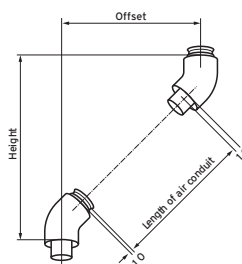

Fig. 6.4: Installation of 45° bends
- When using elbows for long flue runs in a corner follow fig. 6.4 and fig. 6.5 to avoid obstructions.
Note: The elbows must be correctly aligned to avoid undue stress on the joints and risk of leakage. The elbow fitted to the top of the boiler (1) should be twisted by 3° to ensure that the second 87° elbow (2) exits the wall perpendicularly. When using 87° elbow install with a slope of 3° between wall and air-flue pipe (fig. 6.4) or use 2 x 45° elbows (fig. 6.5).